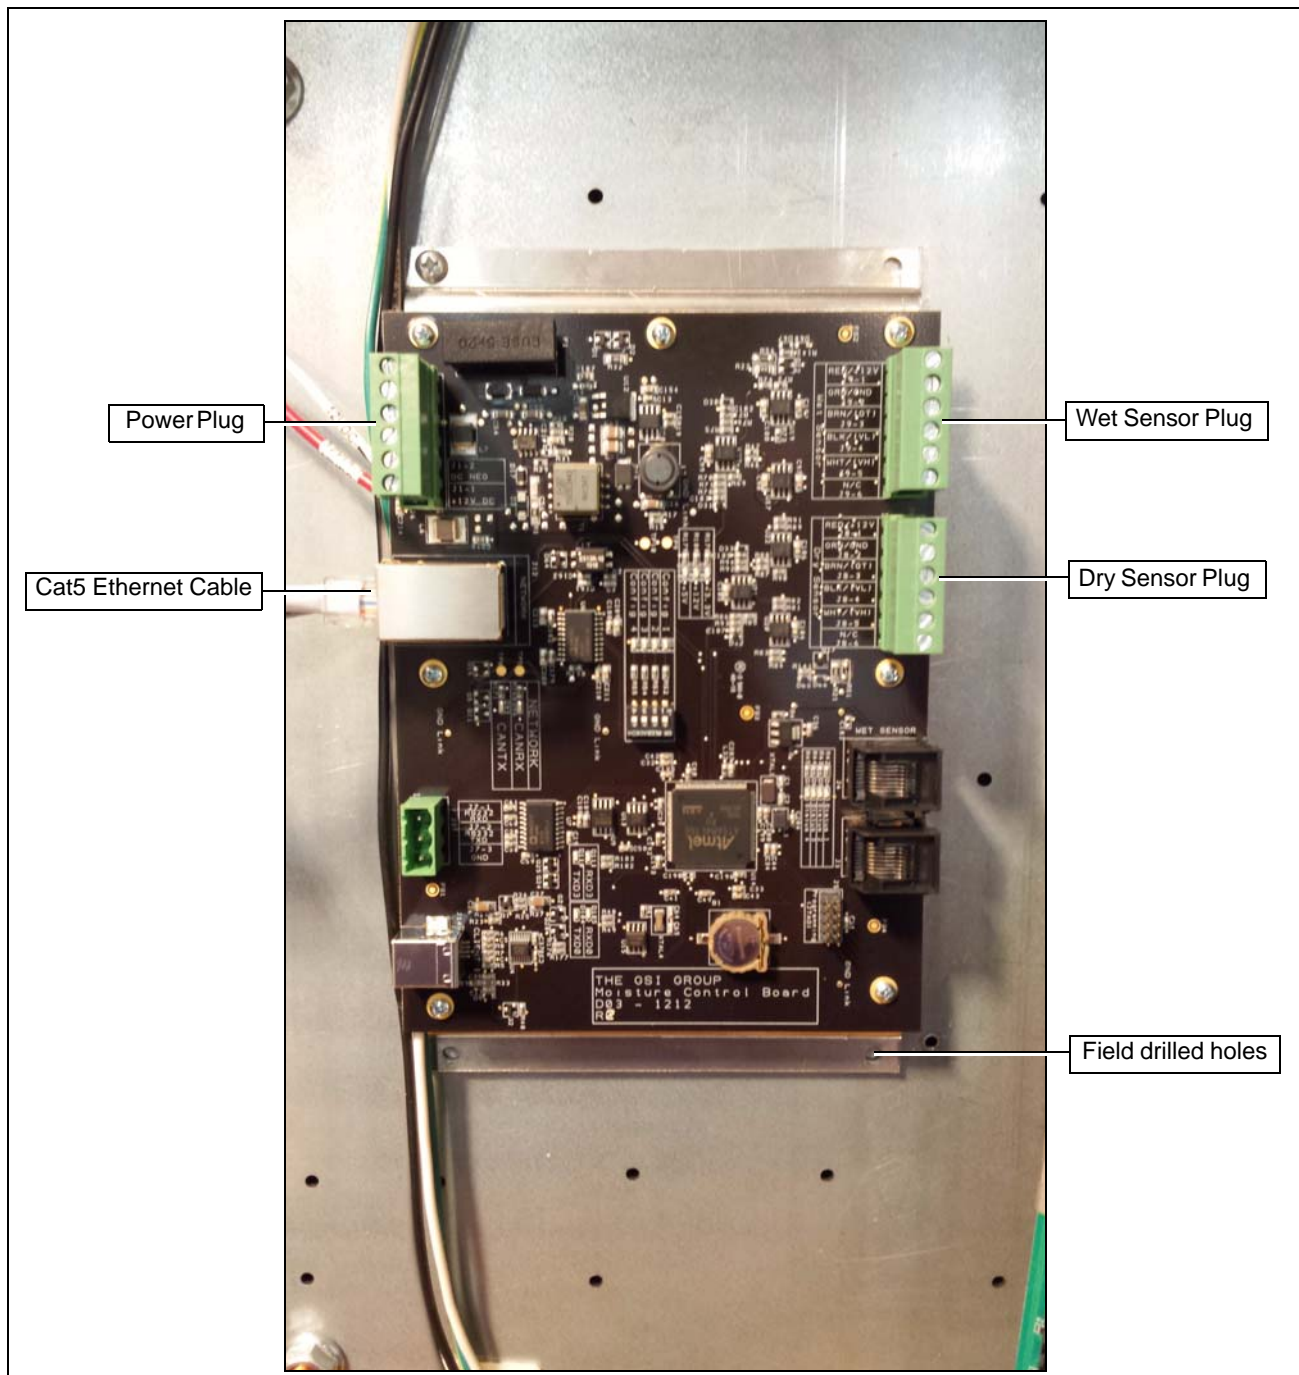

Figure 3 New Style Moisture Control Board
5. Re-install all the connections to the new moisture control board. (See Figure 3.)
NOTE: The WET and DRY sensor plugs orientation has changed in Figure 3.
NOTE: If replacing the disk in the 1st generation unit as shown in Figure 3 on Page 3, then you may need to remove four (4) screws to the outer cover then the two (2) screws holding the fan plate to gain access to the disk drive.